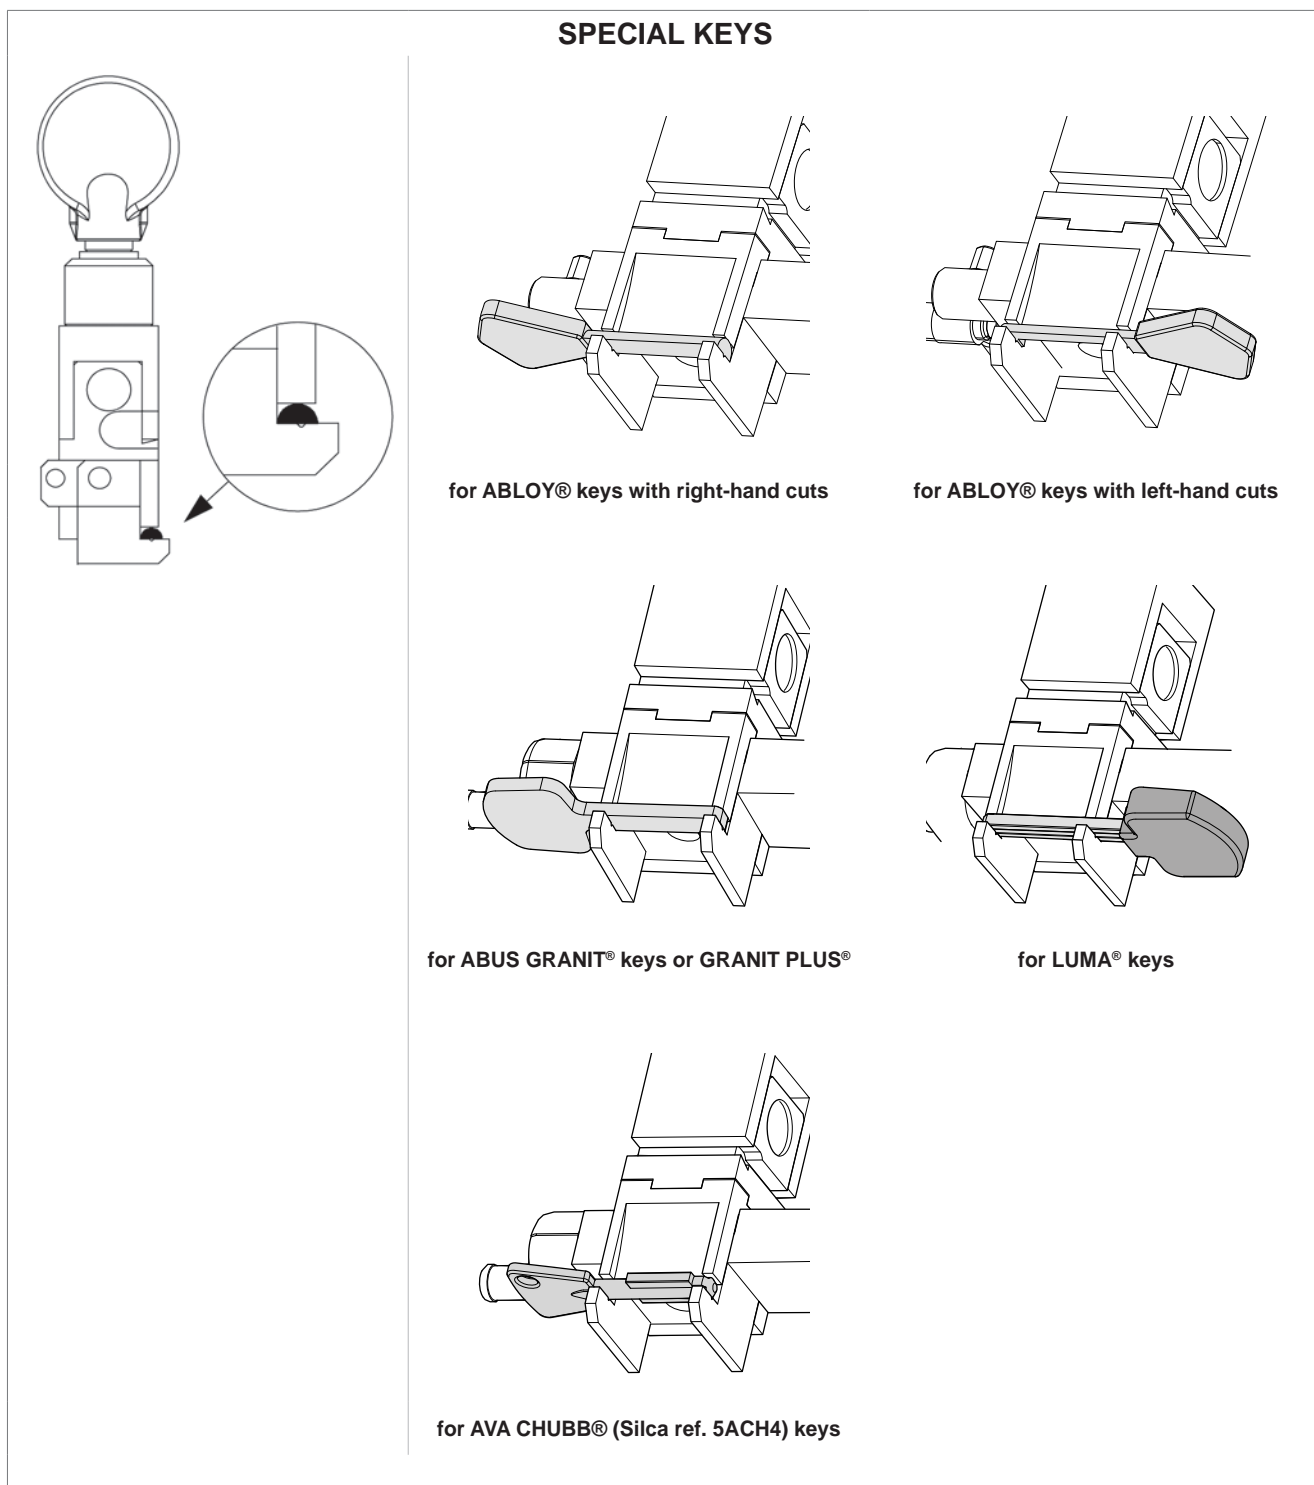
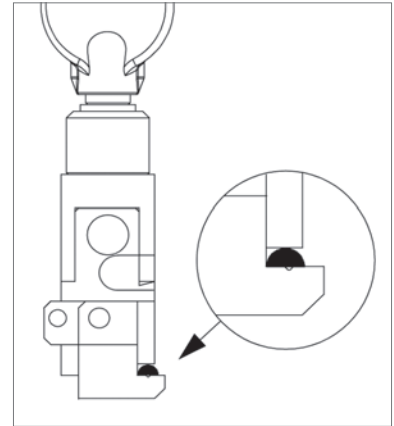

Fig. 28
Fig. 37
- Clamp side for special keys such as ABLOY®, ABUS®, LUMA®, AVA CHUBB® (Silca ref. 5ACH4) (position D) (Fig. 28).
Loosen the knob (J1) in order to raise the lower jaw manually and fit the key (Fig. 28 and Fig. 37).
- key head on the right of the clamp (Fig. 28 and Fig. 38).
- key head on the left of the clamp (Fig. 28).